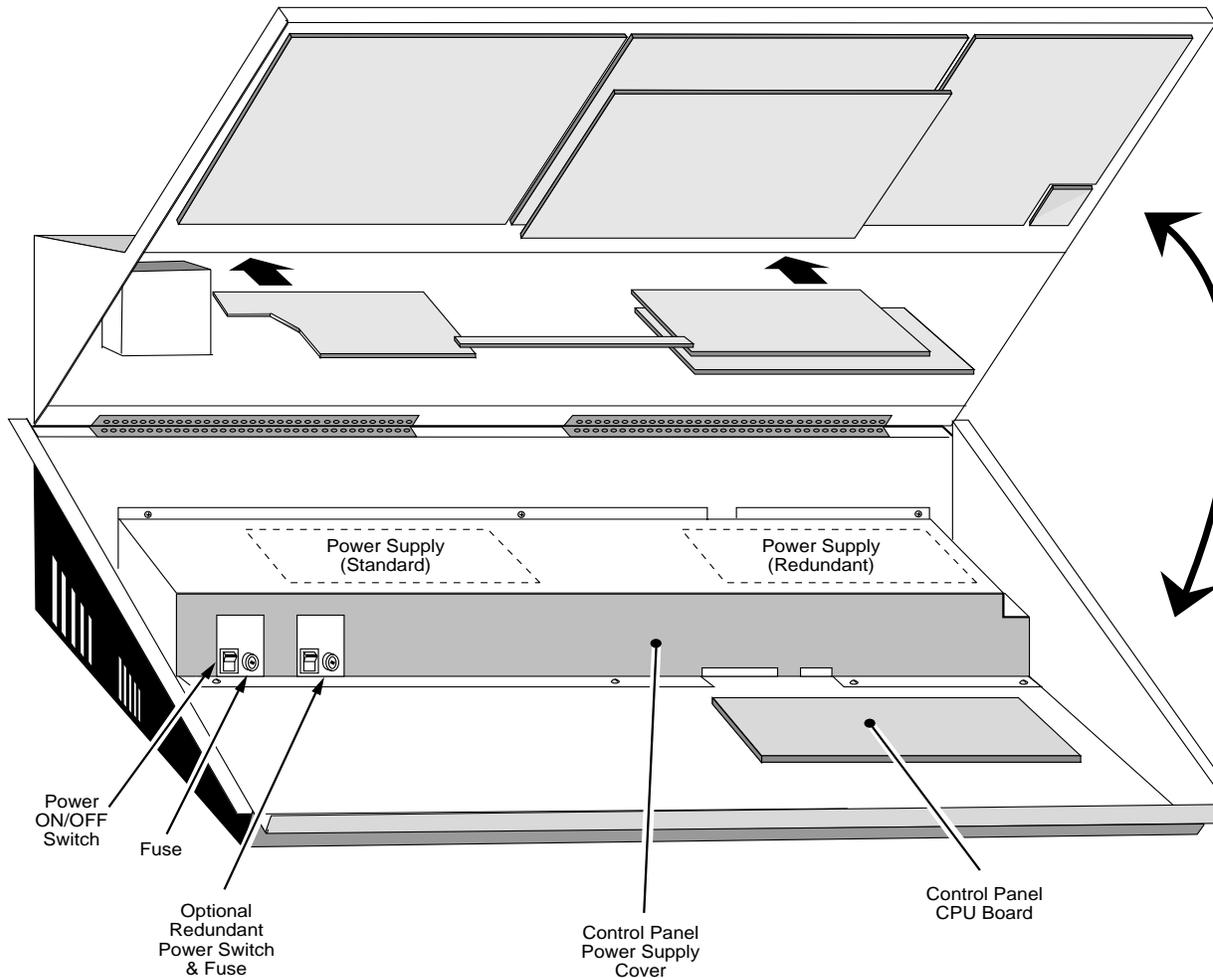

Figure 4-10. Model 3000-2 Control Panel AC Power Switch Location.
1. Open the Control Panel and turn the AC power switch(s) on the left front of the enclosure to the OFF (Ø) position. See Figure 4-10